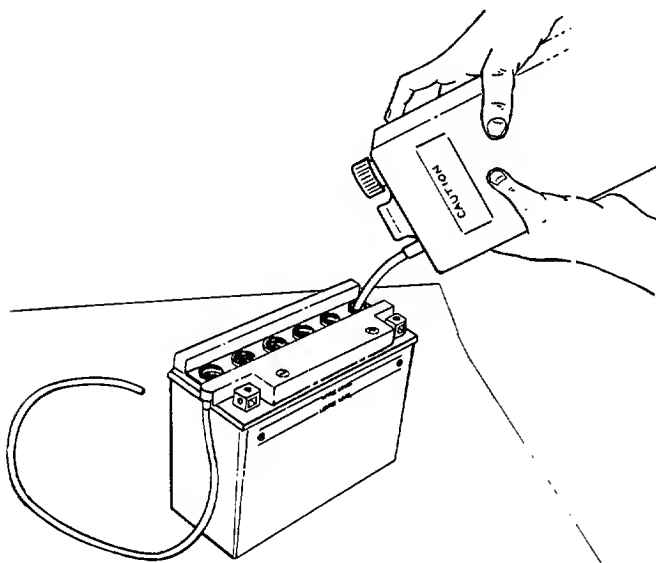

FIGURE 3.
5. Fill each battery cell slowly and carefully to the UPPER LEVEL line marked on battery. See figure 3. Use caution as the acid level will rise rapidly after the bottom of the cell is filled.